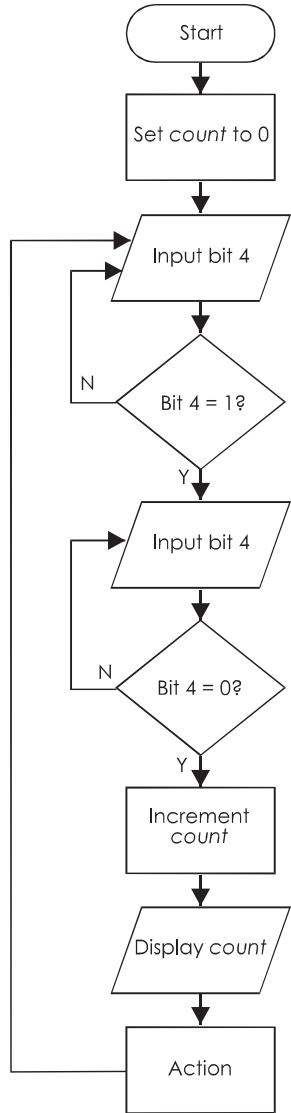

FIGURE 38.12 Counting events requires two checks on the input level.
- 10**) **Counting events**, such as the number of packages passing by on a conveyor belt, are programmed in the flow chart shown in Figure 38.12. This flowchart illustrates two important principles. The first is that all stored values must be **initialised** at the beginning of a program. It is not sufficient to assume that a given bit will be '0' to begin with. It might have been set to '1' by a previously run program. Here, the first thing is to set the counter value to zero.